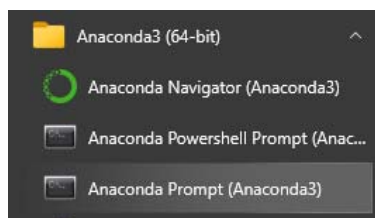

Figure 8 Launch Anaconda Prompt command window
- From Windows PC Start menu locate “Anaconda Prompt (Anaconda3)” as shown in Figure 8 and then click it.